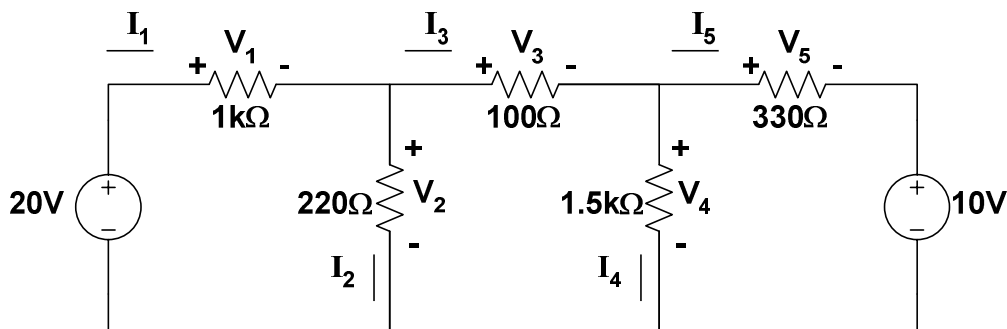

Figure 1: Resistive circuit with two sources
1. Construct the circuit in Figure 1 on *Multisim Electronics Workbench*. Put the meters in the appropriate places to read voltages across and currents through each resistor.
3. Note the current directions and voltage polarities shown in Figure 1.